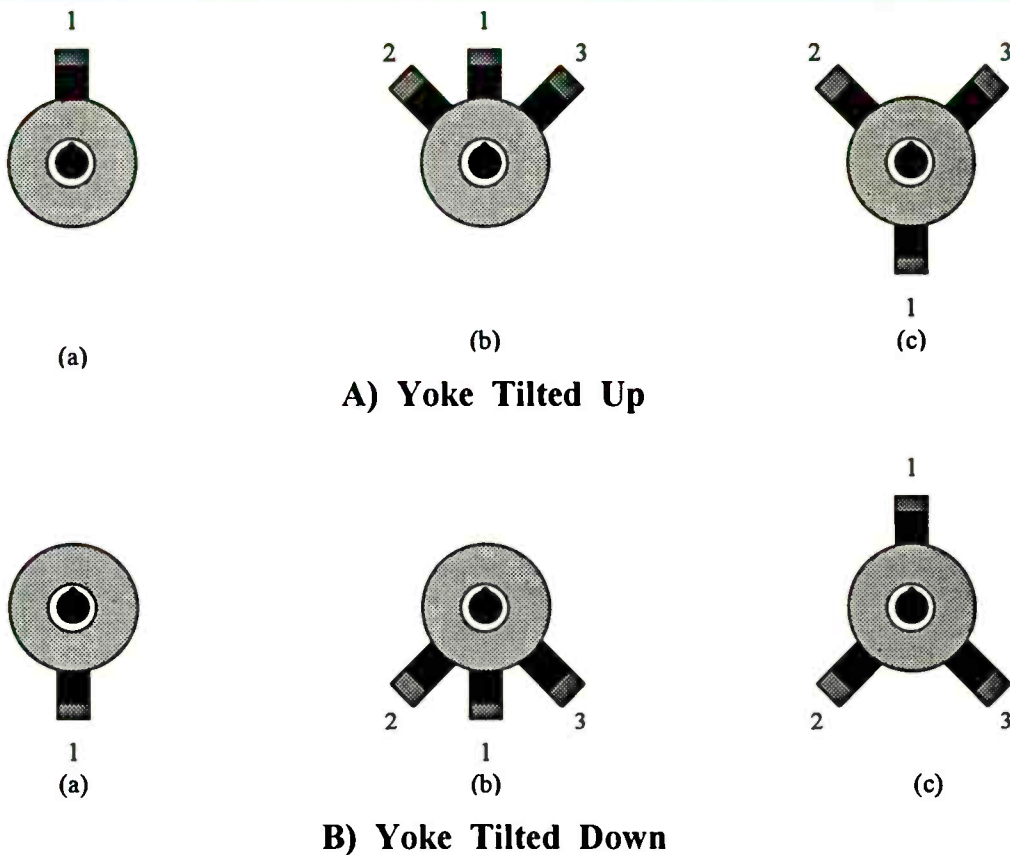

Figure 4. If the yoke is tilted up after the up-down adjustment, perform the procedure in the text using these drawings as a guide.
1. Insert a rubber wedge at the top of the yoke assembly (Figure 4-A [a]). This is a temporary position which acts as a pivot point for making lateral adjustments while maintaining the proper vertical tilt.
2. Make the lateral adjustment and insert wedges 2 and 3 about 60 degrees to either side of wedge 1 (Figure 4-A [b]). Secure wedges in position 2 and 3 with a small amount of rubber cement or silicone adhesive.
3. Move wedge 1 to its final position at the bottom of the yoke (Figure 4-A [c]) and secure it with adhesive.
down alignment you have completed, follow the same procedure using the wedge positions shown in Figure 4-B.